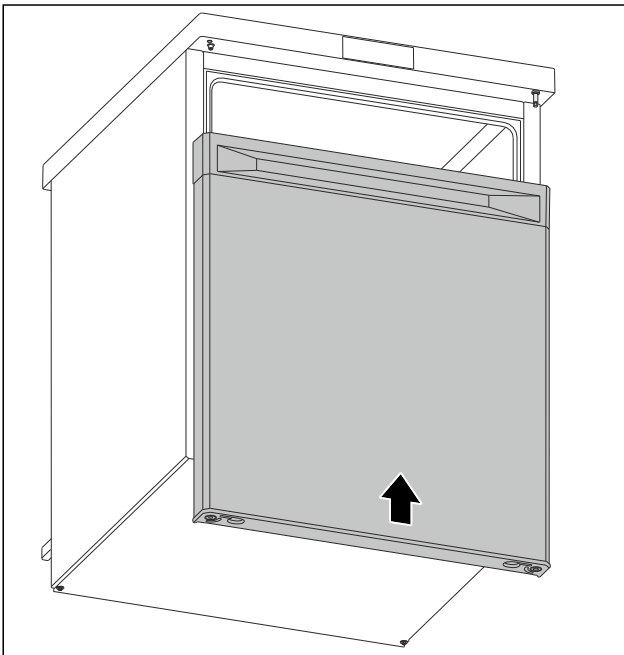

Fig. 13
- ▶ Slide the door onto the upper bolt in closed status. (see Fig. 13)